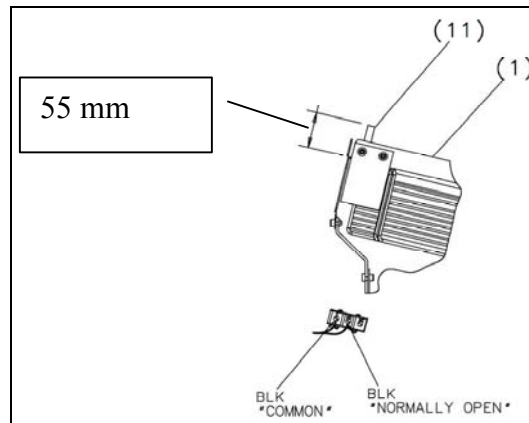

Figure 7. Limit Switch Height Adjustment
12. Adjust limit switch position per Figure 7.